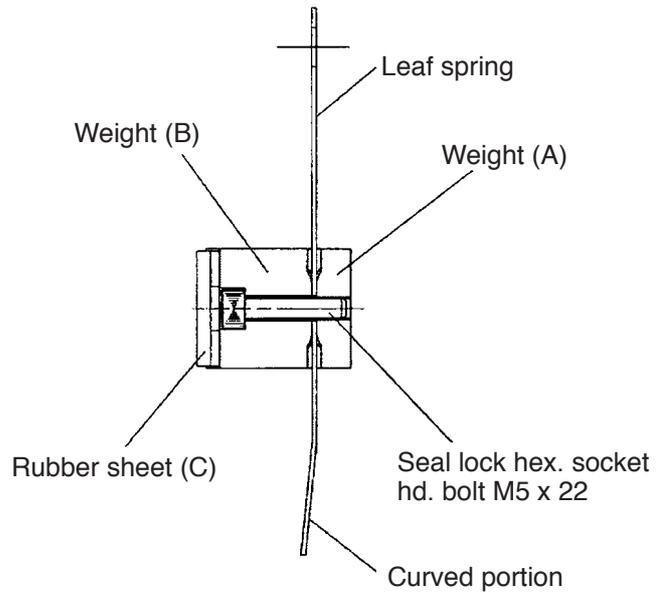

Fig. 25
Sandwich the Leaf Spring [51] between Weight (A) [59] and Weight (B) [58] and fix it with the Seal Lock Hex. Socket Hd. Bolt M5 x 22 [56]. Sufficiently degrease the adhering surface of Weight (B) [58] and adhere Rubber Sheet (C) [57] securely. Be careful that the Leaf Spring [51] is curved to Weight (B) [58]. At this time, do not misalign Weight (A) [59] and Weight (B) [58], and do not turn the Leaf Spring [51] (Fig. 25).